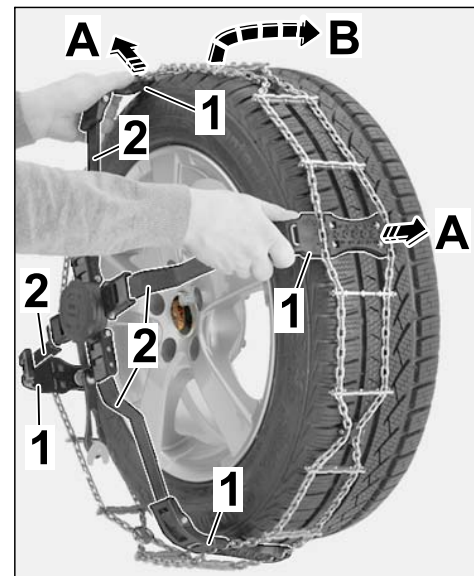

Figure 7
2.2.2 Open two adjacent plastic supports (⇒ *Figure 7-A*) and guide them with the chain net from above as shown ⇒ *Figure 7* as far as possible over the rear wheel (⇒ *Figure 7-B*).